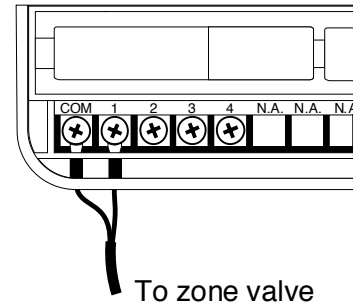

Figure 3
3. Connect the common wire to the terminal screw labeled “COM”. (See Figure 3.)